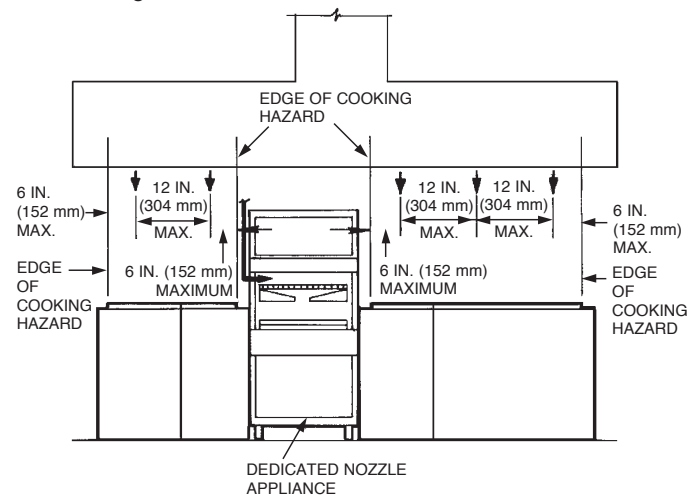

FIGURE 4-137
3. When an appliance requires dedicated protection with a protected area intended for overlapping appliance nozzle protection, the group protection option is required for appliances on either side of the appliances using dedicated protection. Group protection using overlapping appliance nozzles must begin with the protected appliances adjacent to the dedicated appliance protected. An overlapping appliance nozzles must be positioned within 6 in. (152 mm) of the edges of the appliance hazard surface areas adjacent to the dedicated nozzle protection. See Figure 4-137.